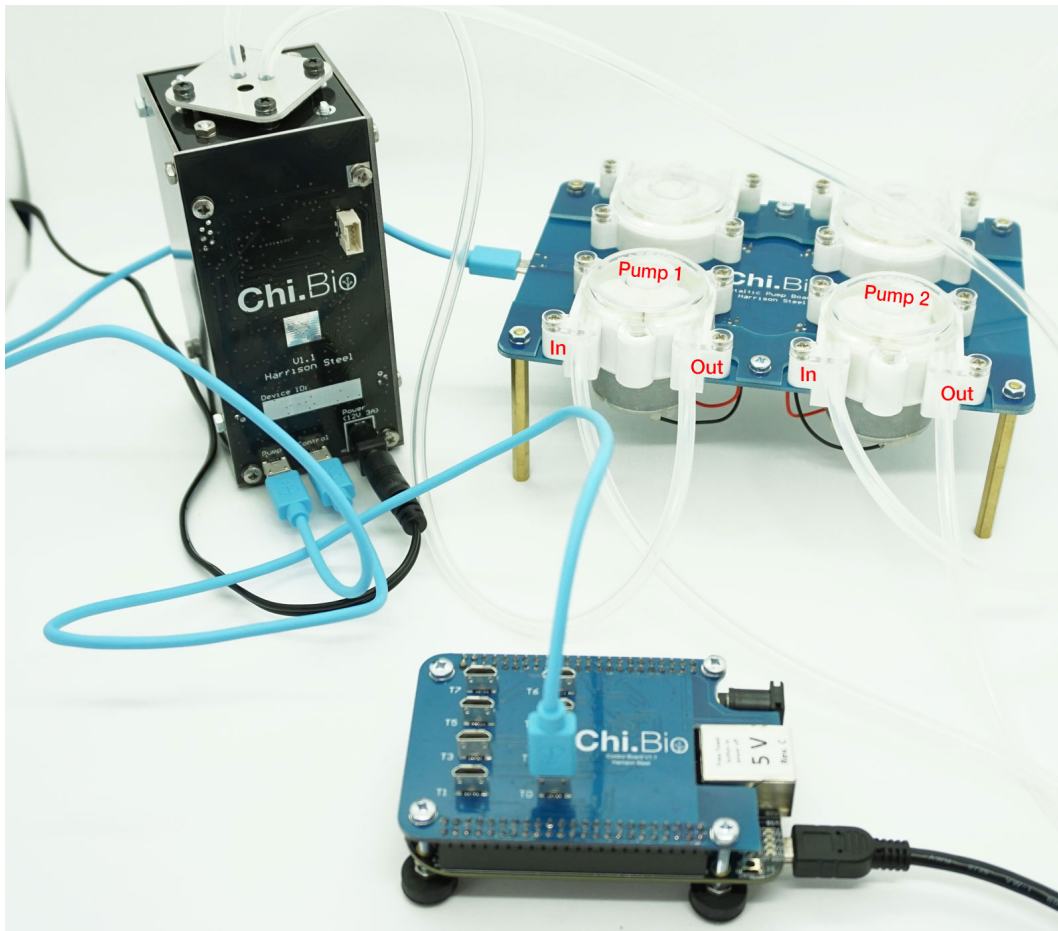

Figure 1: Chi.Bio with all electronic/pump connections. Pump default input/output directions are labelled.
3. Sterilise pump tubing by pumping alcohol through each tube for ~ 10 seconds, followed by fresh media to flush the alcohol out. Leave the fresh media pump (Pump 1) full of media, but pump all media out of the waste pump (Pump 2). Note that pump heads by default rotate clockwise, and as such have input/output directions as in Fig. 1.